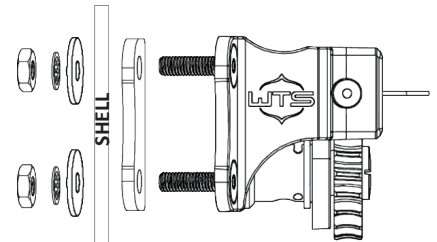

Fig. 1
1. Place rubber pads (G1001) and tuning knob (TA101) against outside of shell as shown in Fig. 1;
3. Assemble flat washer (H1006), tooth washer (H1007) and nut (H1008) on the inside of the shell as shown in Fig. 1. Tighten nut until snug and the rubber pad begins to bulge, **do not over-tighten.**
1. Attach bass claws to bass hoops where Velcro is present (**Fig. 1**).